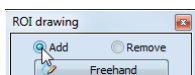

Figure 234 – Set Add/Remove mode for contour editing
2. Select the adding contour mode (see Figure 234). To add a drawn contour to the ROI, check the **Add** radio button. To remove a drawn contour from the ROI, check the **Remove** radio button.
2. Select the contour adding mode (see Figure 234). To add a drawn contour to the ROI, check the **Add** radio button. To remove a drawn contour from the ROI, check the **Remove** radio button.